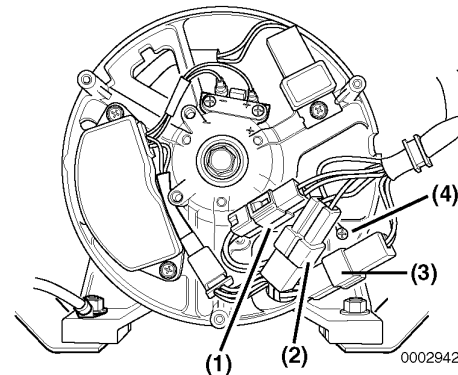

Figure 7-38
Note: YDG3700EV-6EI and YDG5500EV-6EI models use three separate two terminal connectors (**Figure 7-38, (1, 2, 3)**) from the control panel and one ground wire (**Figure 7-38, (4)**) fastened to the rear housing.